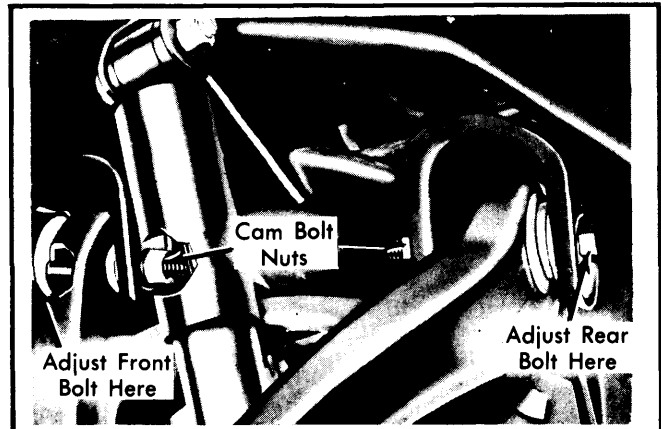

Fig. 33 Caster & Camber Adjusting Cams (Toronado)
Toronado – 1) Note camber reading before adjusting caster. Hold front cam bolt and loosen nut. Turn cam to obtain a change equal to 1/4 of the desired caster change. See Fig. 33.
2) Hold cam bolt in this position while tightening nut to 110 ft. lbs. to maintain setting. Then, follow the same procedure with the other cam assembly. Caster setting then will not be affected. See Fig. 33.